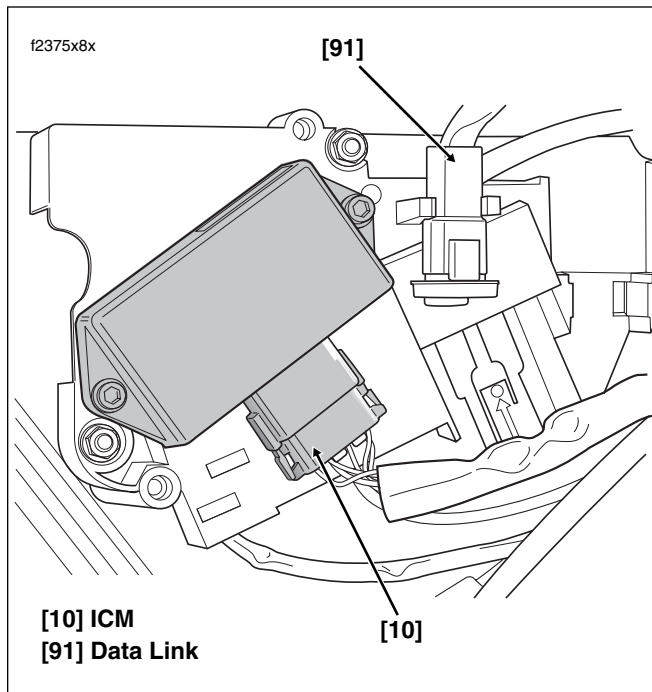

Figure 8-160. Electrical Bracket (Under Right Side Cover)
- b. Remove ICM connector [10]. See Figure 8-160.